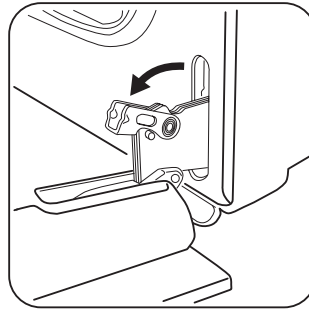

Figure 23: Door hinge Locks
2. Lift and turn/pull the levers on both of the door hinge locks down from the oven frame completely towards the oven door (Figure 23). A tool such as a small flat-blade screwdriver may be required.
4. Lift and turn/push the levers on both of the door hinge locks up towards and into the oven frame to the locked position (Figure 23).